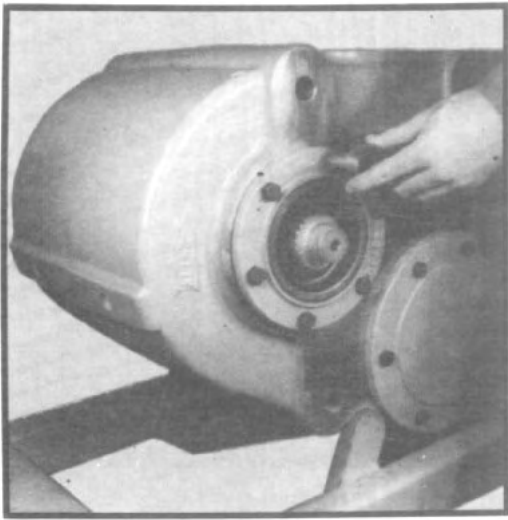

Fig. 26
6. Remove six capscrews from seal carrier and tap to loosen. (See fig. 26.)